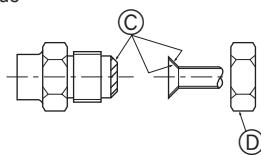

Fig. 4-1
### 4.2. Connecting pipes (Fig. 4-1)
① (Fig. 4-1)
② (Fig. 4-1)